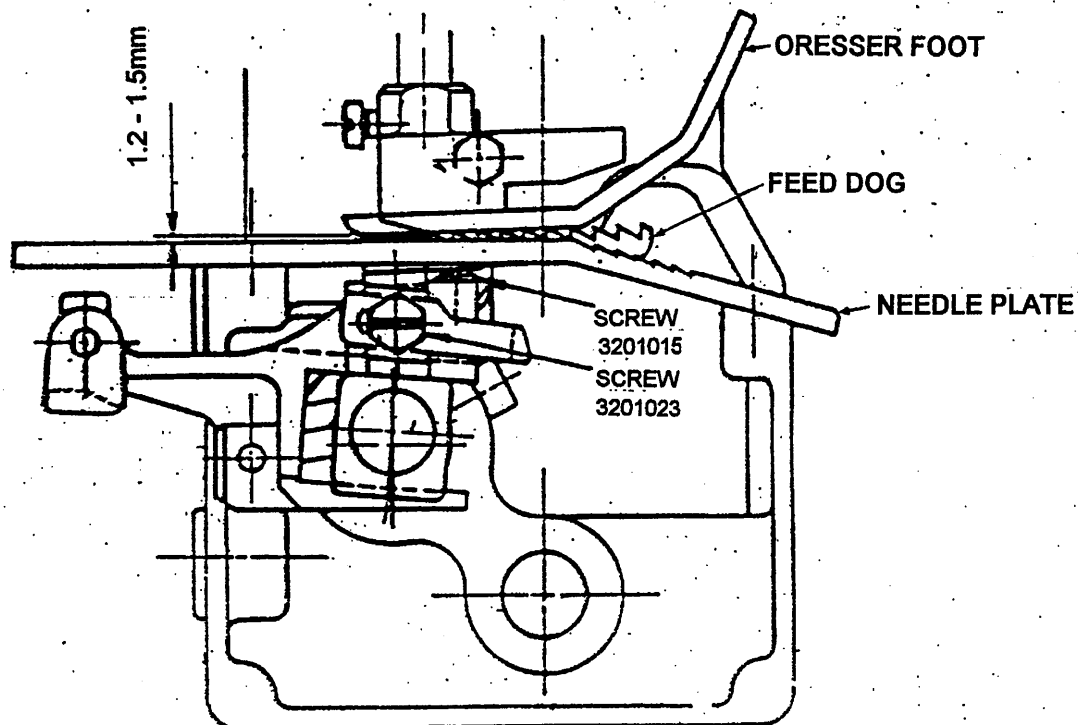

Fig. 10
D. Adjustment 1 Height of feed dog. (Fig. 10)
E. Adjustment / Height of pressure food. (Fig. 10)